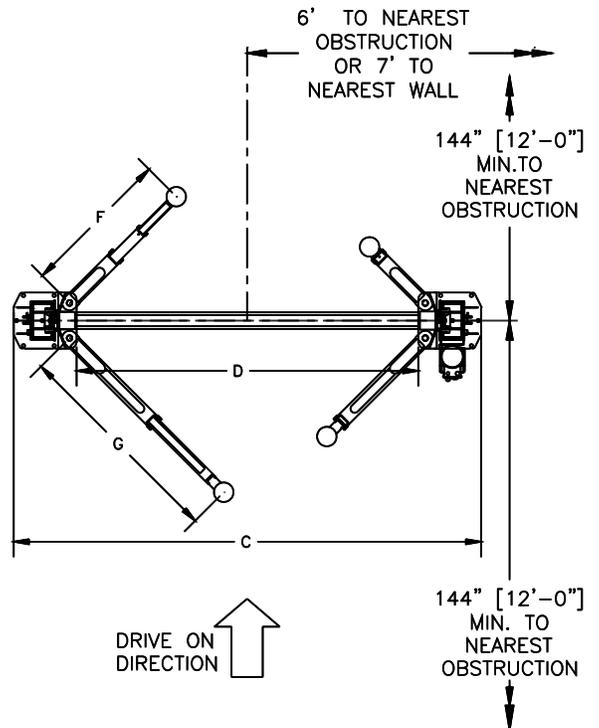

Fig 1b - Service Bay Layout
- 1) Layout the service bay according to the architect's plans or owner's instructions (**see Fig. 1b**). **Failure to install in this orientation can result in personal and property damage.** Be certain that the proper conditions exist, see page 3.
- 3) Using the Overall Width (C) Dimension from **Fig. 1b**, chalk two parallel lines on the floor within 1/8" tolerance. Erect both column assemblies. Align the base plate edges to the chalk lines.